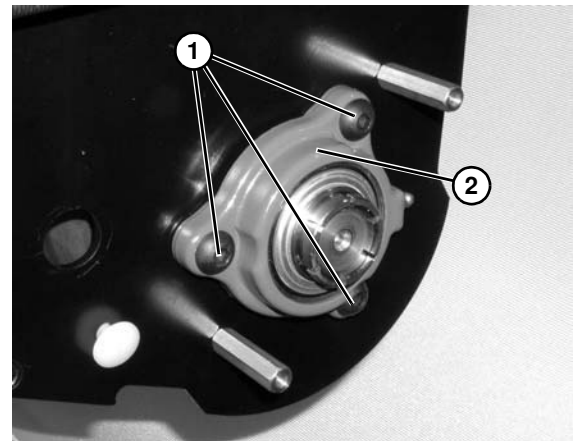

Figure 186
4. Remove the three (3) mounting screws (**Figure 186, item 1**).
5. Remove and replace housing assembly (**Figure 186, item 2**).
6. Tighten three (3) mounting screws (Figure 186, item 1) to 22.5 Nm (200 in lbs).